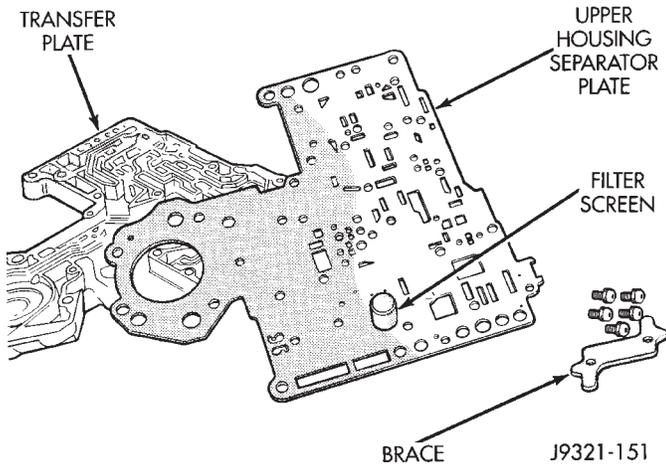

Fig. 87 Upper Housing Separator Plate
(34) Remove upper housing separator plate from transfer plate (Fig. 87). Note position of filter in separator plate for assembly reference.